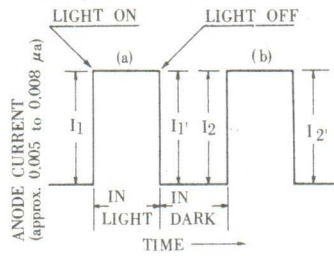
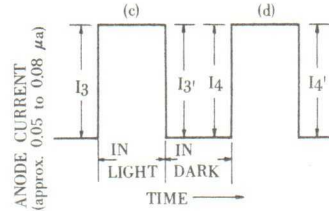

FIG. 2
FIG. 3
* The light intensity was adjusted so as to take the anode current (A) and (B) respectively.
3. The light pulse of from 30 to 40 seconds interval was supplied to the tube as in the Fig. 2 and Fig. 3.